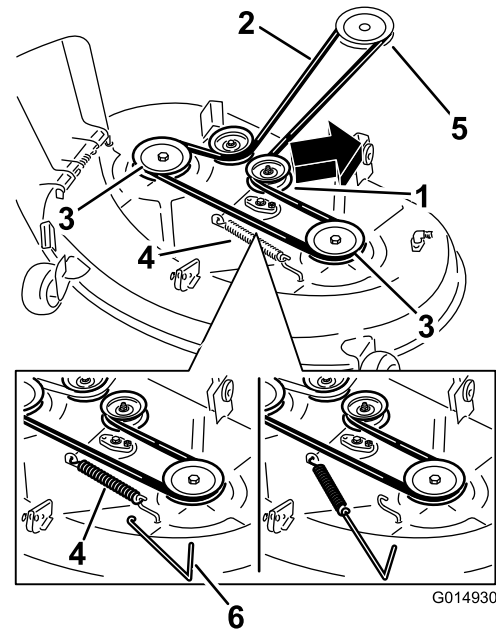

Figure 57
4. Using a spring-removal tool (Toro part no. 92-5771), remove the idler spring from the deck hook to remove tension on the idler pulley, and roll the belt off of the pulleys (Figure 57).
5. Route the new belt around the engine pulley and mower pulleys (Figure 57).
6. Using a spring-removal tool, install the idler spring over the deck hook, and place tension on the idler pulley and mower belt (Figure 57).